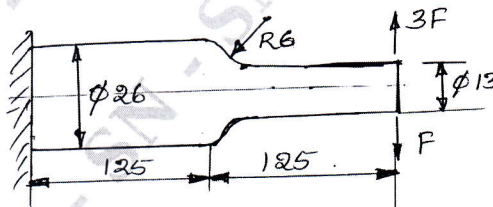

Fig.Q2(c)
- c. A cantilever beam as shown in Fig.Q2(c) made up of cold drawn steel of circular cross section with diameters 26 mm and 13 mm as shown. It is subjected to varying load from 3F (positive) to -F (negative). Solve and determine the maximum load, taking FOS 2.5. Theoretical stress concentration factor at the radius is 1.42, Notch sensitivity of 0.9 and $\sigma_u = 550$ MPa, $\sigma_y = 400$ MPa, $\sigma_{en} = 200$ MPa. Analyze the beam at the change of cross section.